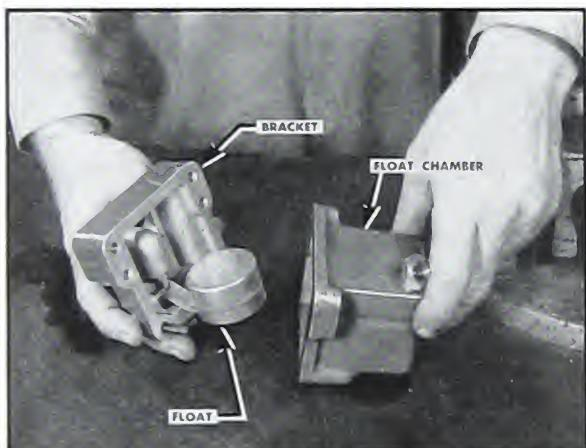

Fig. 5-271. Float chamber and bracket
bracket to the float chamber. Fig. 5-271.
13. With a new gasket, assemble the bracket to the float chamber with two $\frac{1}{4}$ —20 x $1\frac{3}{4}$ " socket head capscrews, flat washers and lockwashers. Fig. 5-271.